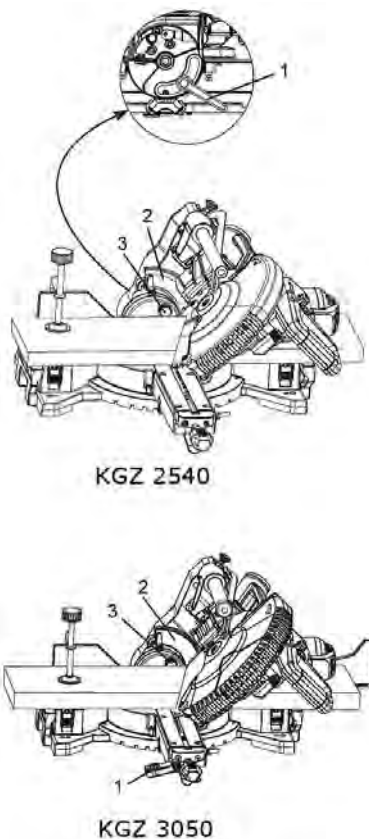

Fig. 39: Quick cam locking lever
Inclination cut (Fig. 39, 40)
Step 1: If a tilt cut is required, release the mitre lever (1) by turning it upwards (Fig. 39).
Step 2: Tilt the cutting head to the desired angle as shown on the tilt scale (2).
Step 3: The blade can be positioned at any angle, from a 90° straight cut (0° on the scale) to a 45° right bevel. Tighten the taper lock handle (1) to hold the cutting head in position. Positive stops are provided at 0°, 33.9° and 45°.
33.9° inclination locking bolt for cutting decorative strips (Fig. 39)
Step 1: Slide the 33.9° tilt lock pin (3) towards the rear of the machine.
Step 2: Release the tilt lock handle (1).
Step 3: Turn the cutter head until the 33.9° tilt lock pin (3) stops the tilt at 33.9° on the tilt scale (2).
Step 4: Tighten the miter lock handle (1) before cutting.